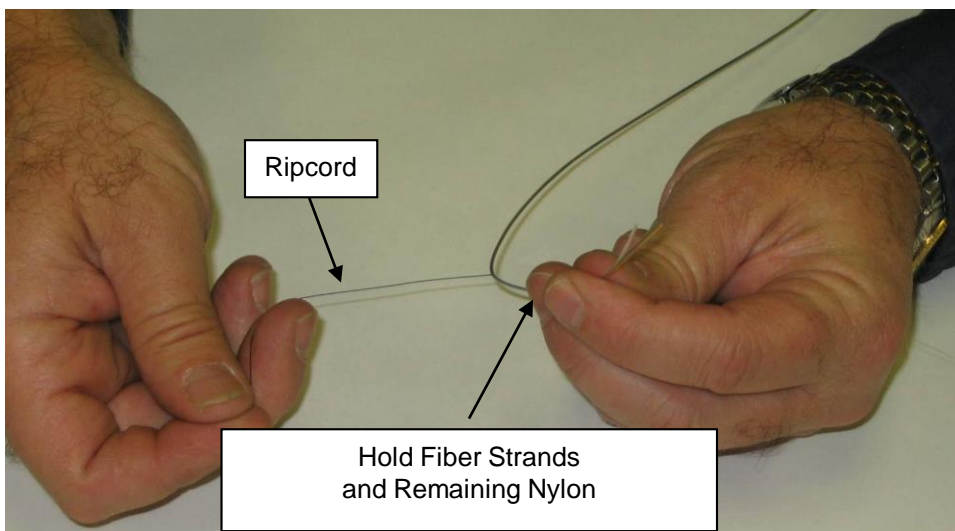

Figure 17
8.7.2 Key Step. With one hand, hold on to all fiber strands and any remaining nylon jacket. **Refer to Fig. 17.**